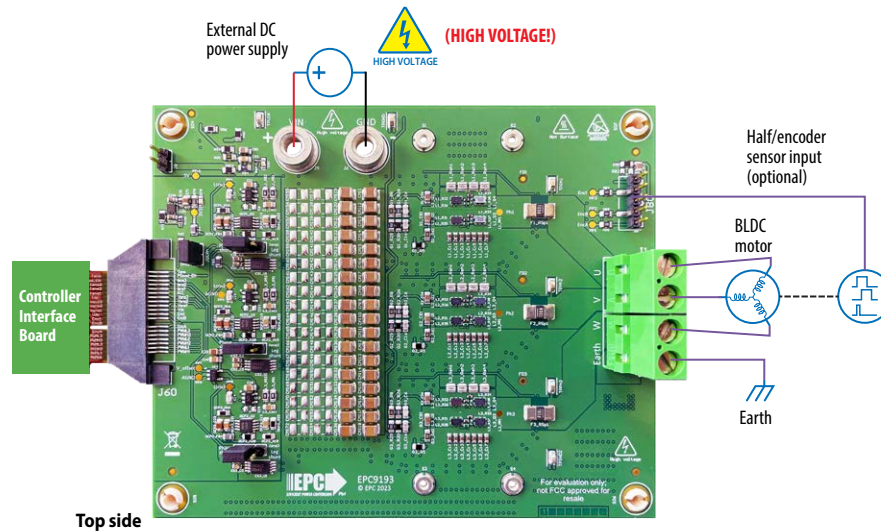

Figure 5: Connection diagram of the EPC9193 configured as a motor drive inverter
A 3-phase BLDC motor drive inverter is the primary application case for which the EPC9193 board was designed for and can be used for either sensor-less or shaft encoder sensor configurations. The motor drive controller options are given in table 4 giving the user various mainstream choices that leverage existing resources to simplify and speed up development and evaluation. Figure 5 shows the simplicity of connecting a controller and motor to the EPC9193. **In the default configuration, the EPC9193 is paired with the EPC9147C that is pre-programmed to power and control a NEMA 34 size motor from Teknic M-3411P-LN-08D**, with DC supply voltage of 48 V using sensor-less field orientated control with space vector pulse width modulation (SVPWM).
2. Connect the correct motor, whose parameters are programmed into the controller, to the EPC9193 at connector J1 and the DC power supply at connectors J5 and J6 (**Observe correct polarity, there is no inverse polarity protection on board**) and shown in figure 5.